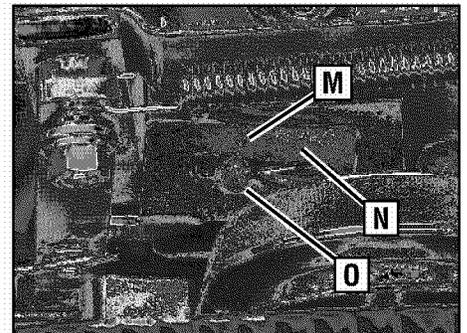

Figure 5-14: While pushing reverse idler arm inward, stand at engine end and check position of guide mark (M) and guide pin (O).
Hold the idler arm in this position and look at the position of the belt tension guide mark (M, Figure 5-14) that is stamped into the face of the reverse adjustable link (N, Figure 5-14).
- The tension is correct if the guide mark (M, Figure 5-14) is anywhere to the left of the guide pin (O), as viewed from the